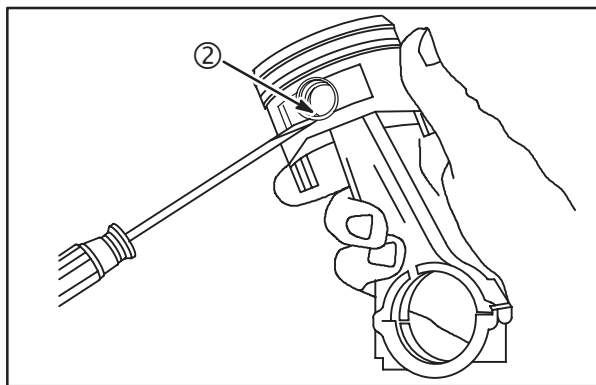

Fig. 2
3. Disassemble piston from connecting rod, **Fig. 2**.
- a. Remove piston pin locks (2).